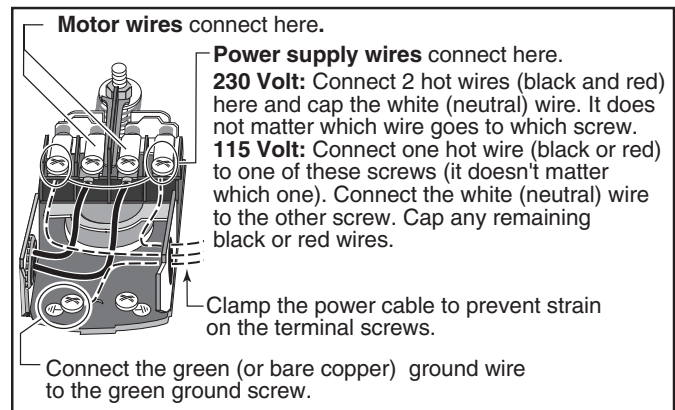

Figure 8: Pressure Switch Wiring
1. Connect the ground wire first as shown in Figure 8. The ground wire must be a solid copper wire at least as large as the power supply wires.
4. Connect the power supply wires to the pressure switch as shown in Figure 8, Page 7.